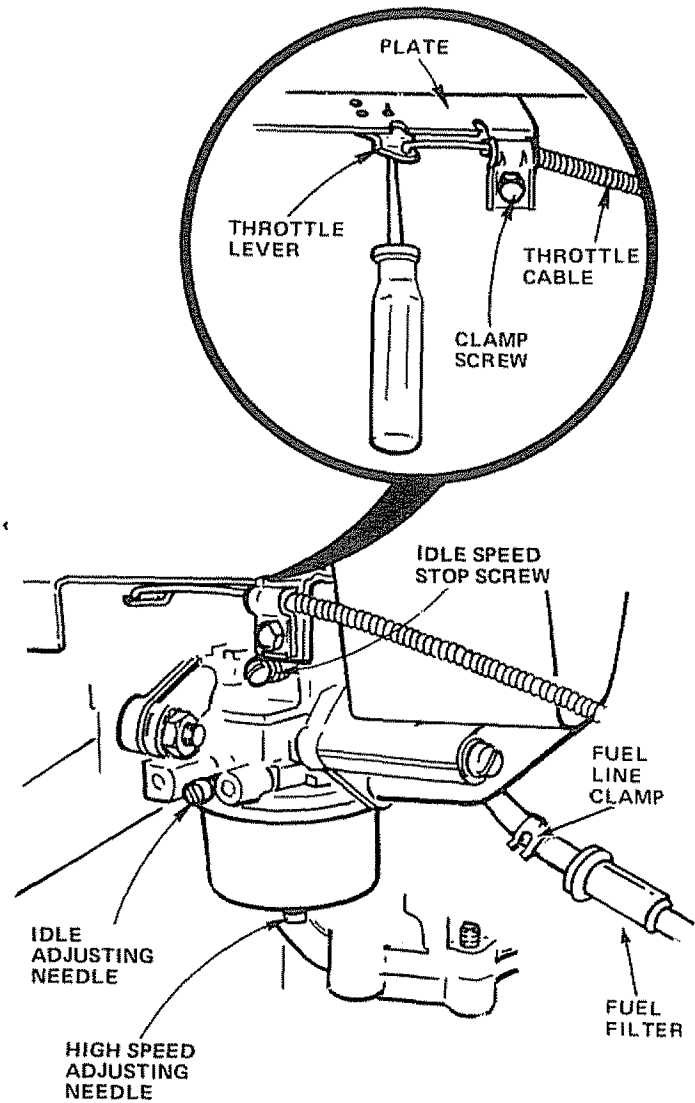

FIGURE 31
- c. Check that hole in Throttle Lever and hole in Plate line up (Fig. 31 - Inset). If holes are not aligned, loosen Clamp Screw and move Throttle Cable until holes are aligned. Tighten Clamp Screw.
- d. Turn High Speed Adjusting Needle clockwise (↻), closing finger tight ONLY, and then turn counterclockwise (↺) 1-1/2 turns (Fig. 31).
- a. Remove Clamps from fuel lines at front and rear of Fuel Filter (Fig. 31).